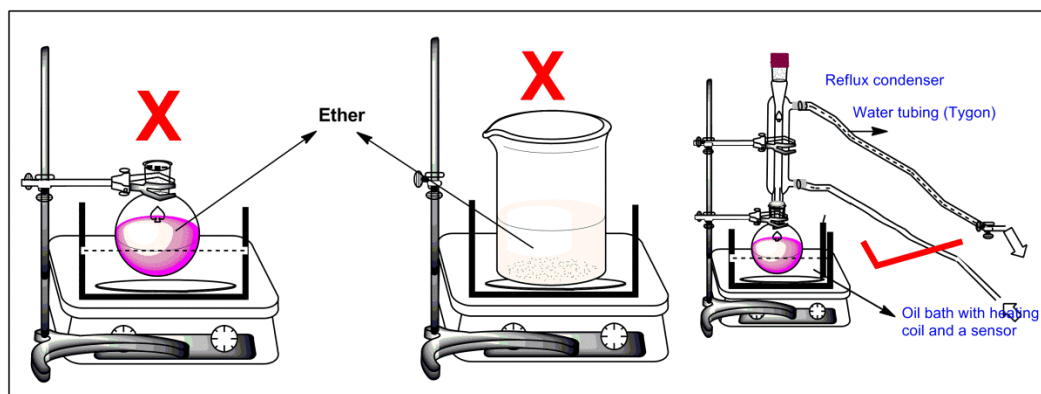

Fig. 2
8. Direct heating of solvents, especially low-boiling solvents such as ether and carbon disulfide (bp 30-60°), pose a risk of fire and should be avoided. Using a water bath will give more even heat distribution and give more control over the temperature. If it is necessary to boil these solvents, **Do Not** use an open beaker or flask. Always use a condenser (Fig. 2).